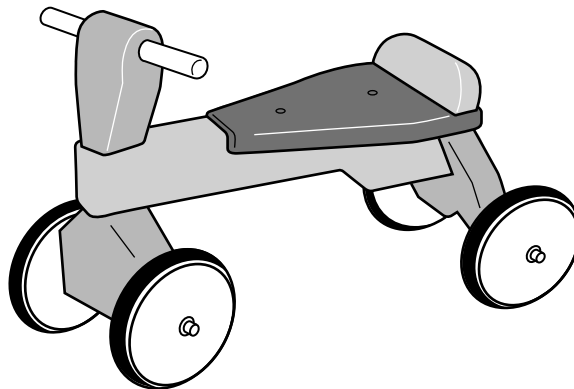

Fig. 5
- 8 Fig. 5 shows a child's sit-on toy made from wood.